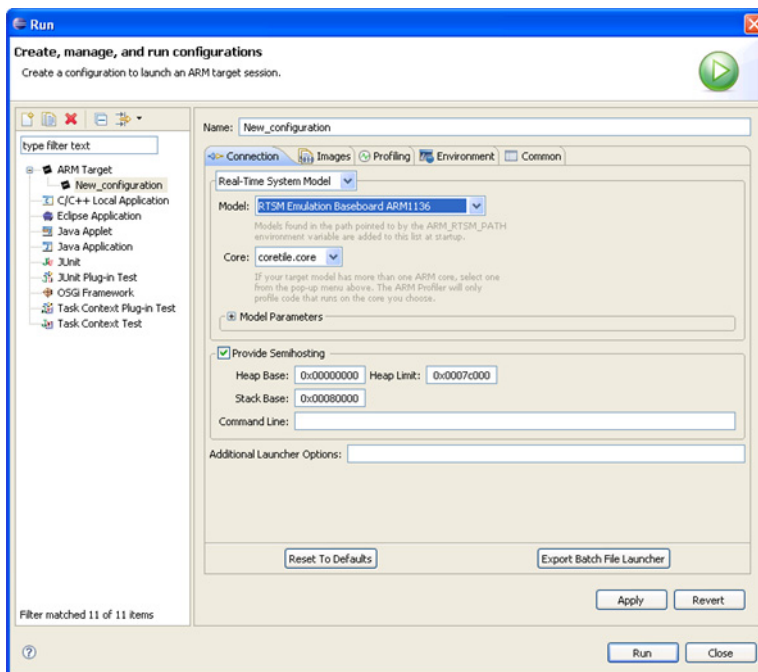

Figure 4-1 A New ARM RTSM Run Configuration
3. Click on the ARM Target in the explorer pane on the left and then click the  new launch configuration button in the toolbar. After the successful creation of an ARM target run configuration, the ARM Workbench run window looks like the one shown in Figure 4-1: